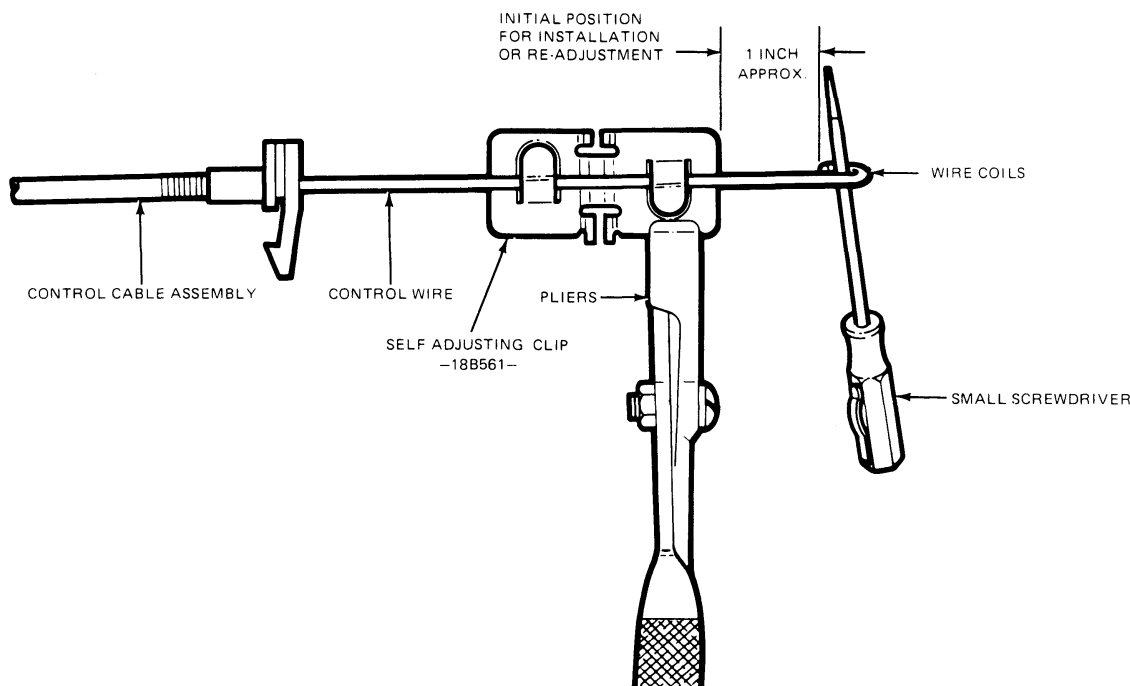

Fig. 4 — Control Cable Pre-Set Adjustment
1. Insert the blade of a small pocket screwdriver in the end loop (crank arm end) of the respective function or temperature control cables as shown in Fig. 4.
2. Hold the crank arm firmly in position. Then, insert the blade of a small pocket screwdriver into the wire loop, as shown in Fig. 4, and pull the cable wire through the self-adjusting clip until a space of approximately one inch exists between the clip and the wire end loop.
3. Position the control assembly to the instrument panel opening and install the four (4) attaching screws. Connect the wire harness to the control assembly if it was necessary to disconnect during removal.
5. Position the center finish panel to the instrument panel and install the two (2) attaching screws.
9. Adjust the position of the self-adjusting clip (if necessary) to a position approximately one (1) inch from the end loop of the cable (Fig. 4).